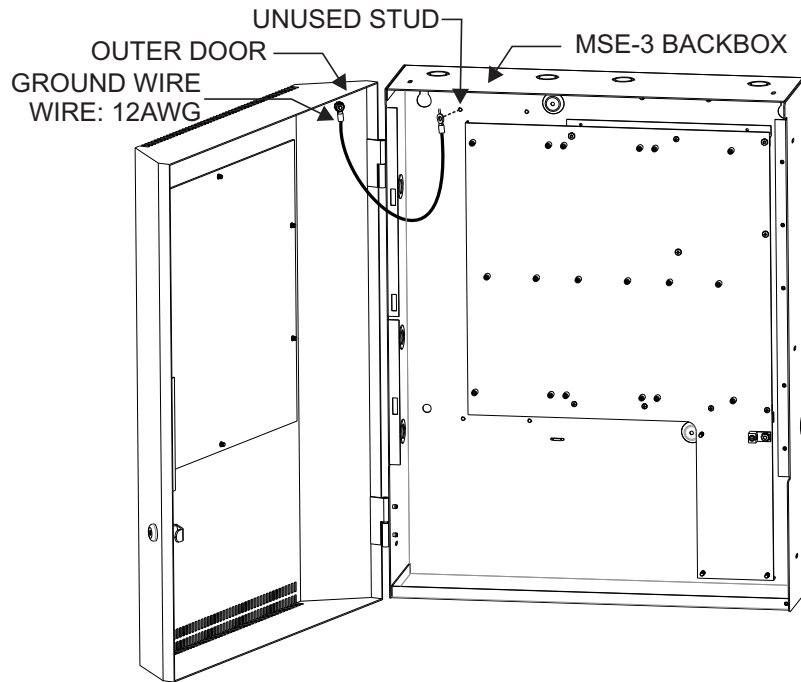

Figure 5
3. A ground wire comes installed on the inside of the outer door. (Refer to Figure 5.) Bring the free end of the ground wire through the opening at the top left-hand side of the inner door and secure it in place on an unused stud in the backbox with a #10-32 hex nut (user supplied).